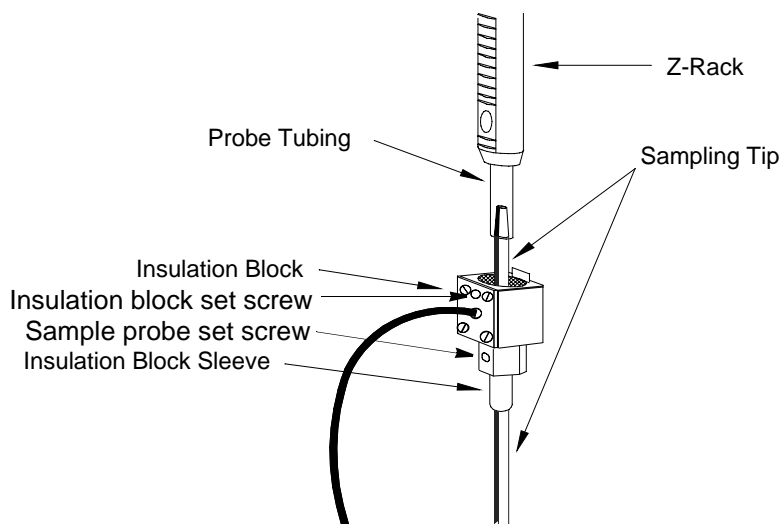

Figure 3-3 Replacing the sampling probe
3. Loosen the sampling probe set screw and remove the probe from the block. See Figure 3-3.